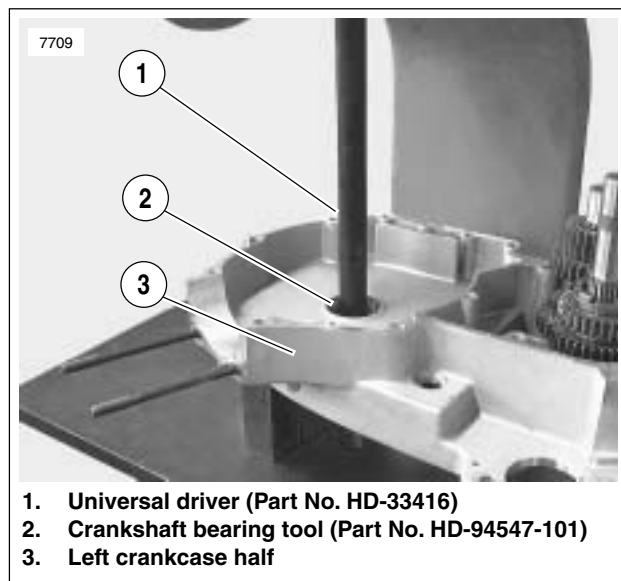

Figure 3-116. Sprocket Outer Shaft Race Removal
12. See Figure 3-116. Use CRANKSHAFT BEARING TOOL (Part No. HD-94547-101) to remove sprocket shaft outer races.